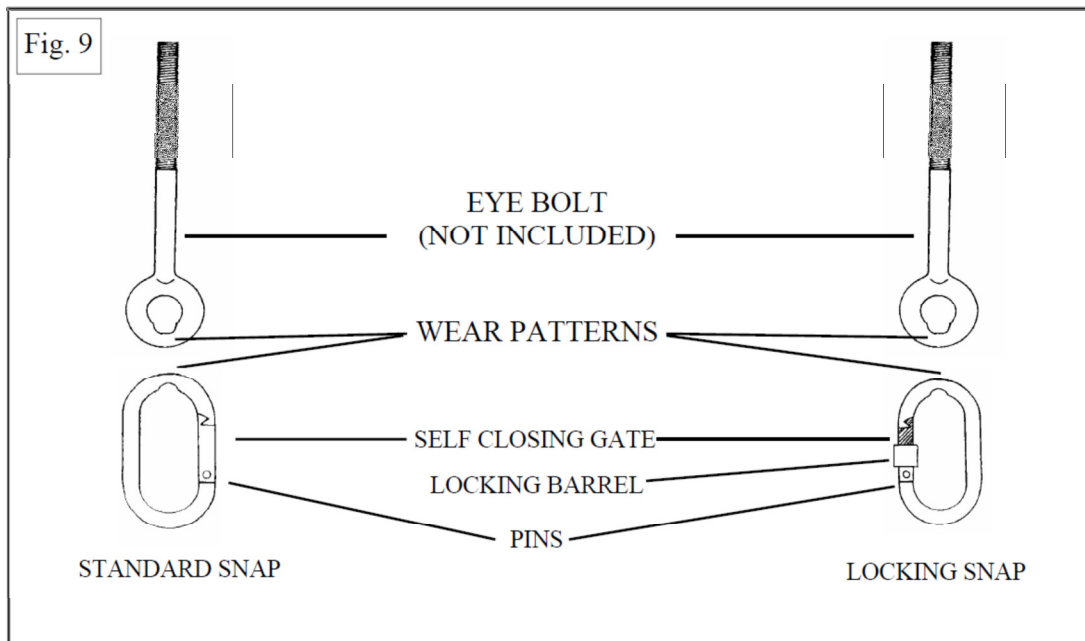

Fig. 9
- Check the top and bottom of the snap for wear against equipment and suspension eye bolt. (See fig. 9). If wear exists, it should not exceed 30% of the diameter of the safety Snap. If it does, discontinue use immediately, and replace.
- Check eye bolt for similar wear at the point where it rubs against the safety snap. If wear exists, it too should not exceed 30% of the diameter of the eye bolt. If it does, discontinue use immediately and replace. (See fig. 9).